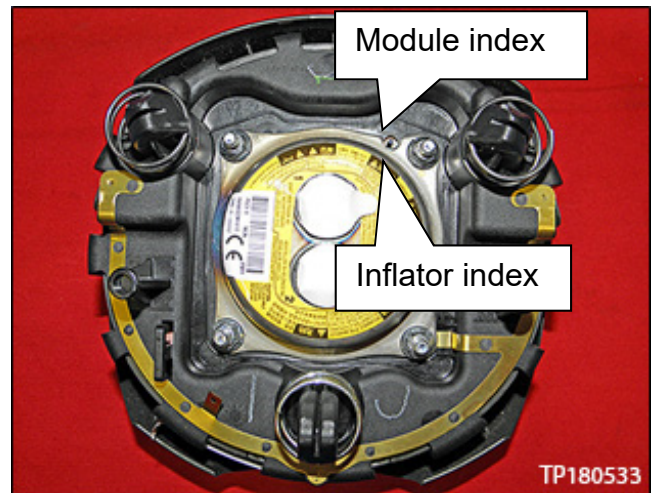

Figure 11
- Line up the indexing marks on the inflator and module shown in Figure 11.